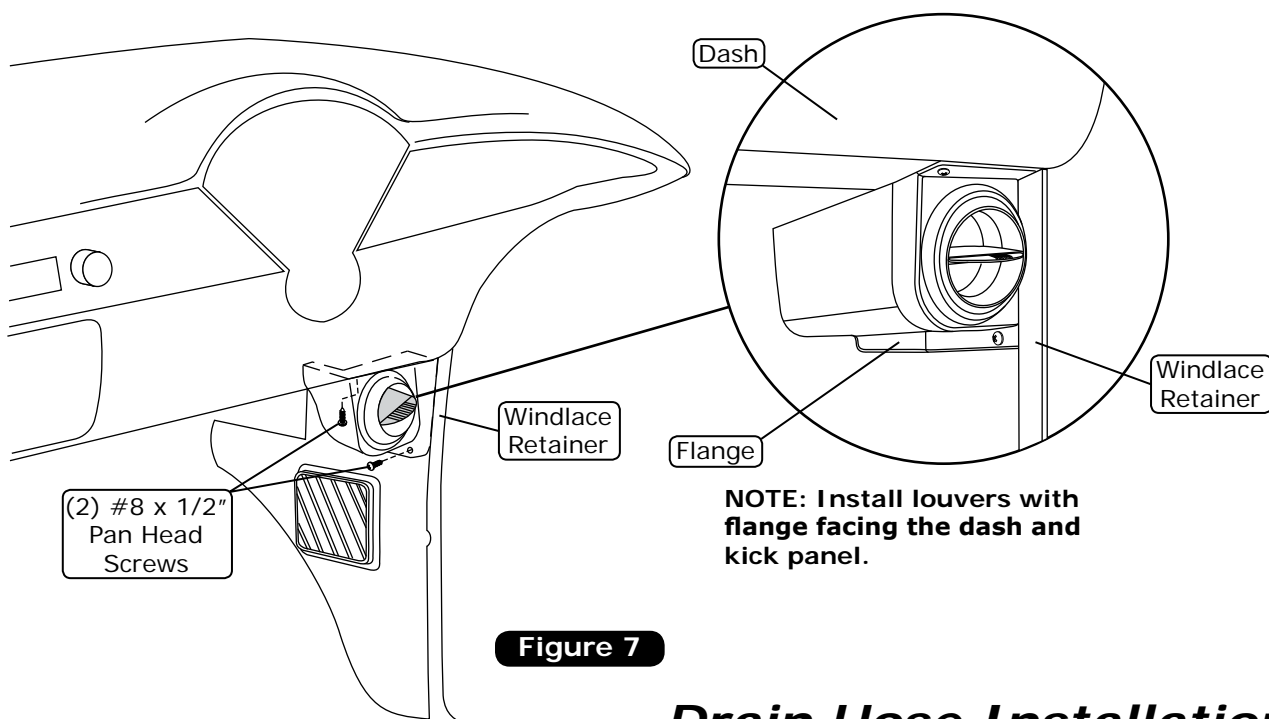

Figure 7
1. Install the driver and passenger side under dash louvers with the flange facing the dash and kick panel as shown in Figure 8, below. Tuck the kick panel side of the louver flange behind the kick panel windlace retainer, and slide the louver up until the flange is seated against the dash. Secure the louver to the kick panel with (2) #8 x 1/2" pan head screws (See Figure 7, below). **NOTE: In most cases, the louvers will fit as described. However, due to dash and kick panel variances, the presence of aftermarket components or modifications, etc., it may be necessary to trim the louver flange and/or slightly move the parking brake lever for proper fit.**